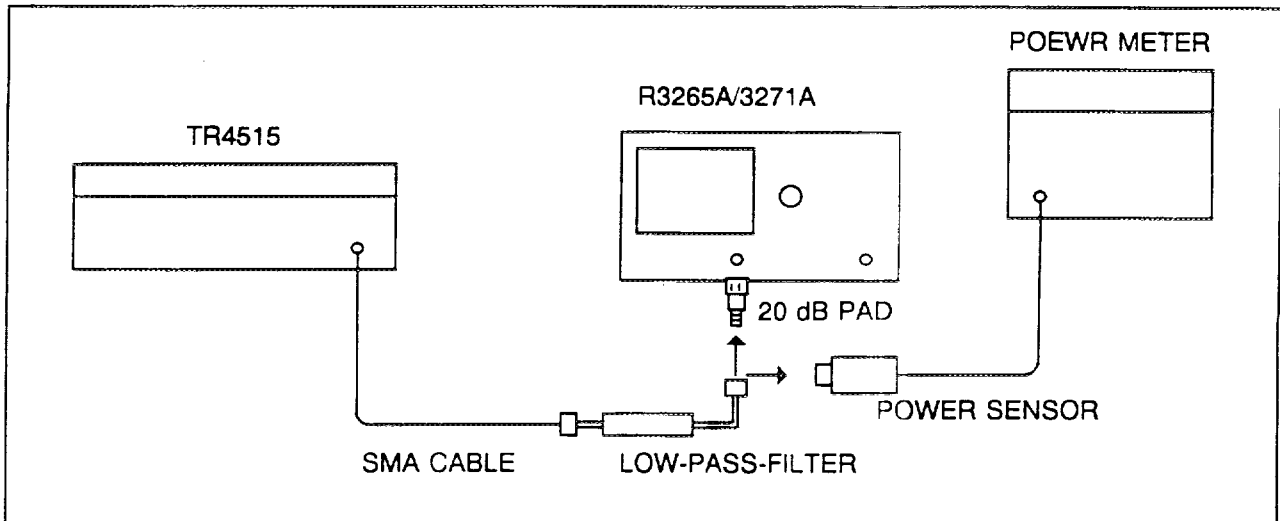

Figure 5-18 Frequency Response Adjustment (2) Setup
(1) Zero and calibrate the power meter. Rotate and adjust the CAL FACTOR control to set the 421MHz calibration factor of the power sensor.
(2) Connect the equipment as illustrated in Figure 5-18. However, connect the low-pass filter output to the power sensor.
(3) Press the **PRESET** key of the TR4515, and set the controls as follows: